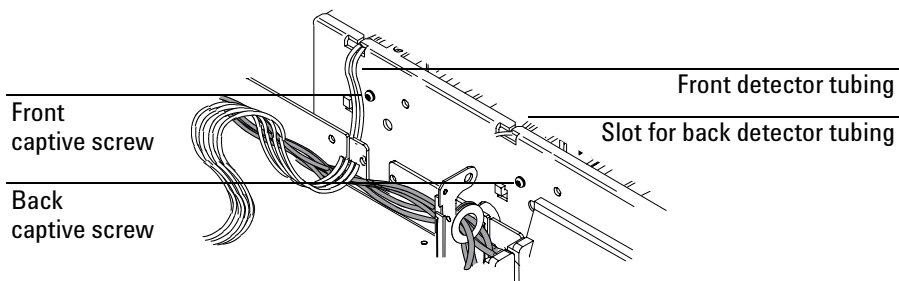

Figure 3. Captive screws and tubing
3. Secure the manifold in place using a Torx T-20 screw from the front of the pneumatics chassis. See Figure 3.
4. Route the gas tubing over the top of the chassis and through the slots as shown in Figure 3.